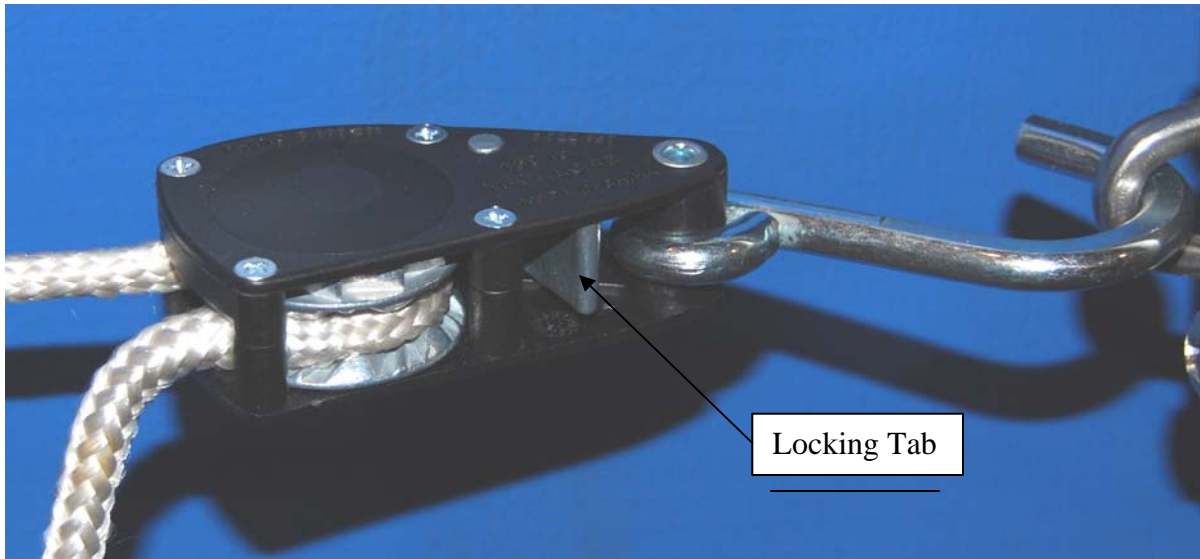

Figure 5
Rear posts are to be 1' ft higher than the front post assembly, they apply pressure up, and back. The four (4) "J" stakes placement are recommended, one on each of the net back corners and two along the back at eight (8) feet apart between corners. These stakes must be completely inserted into the earth as a safety measure. The "rope ratchets" are used for ease of adjustments to net position, they are self loading. Insert 1/8 rope onto the left or top side and the rope will feed itself through up and over the internal wheel relieving the pressure on the locking tab, next to the hook; this unlocks the pressure when the rope is tight and installed. See Figure 5 (picture)